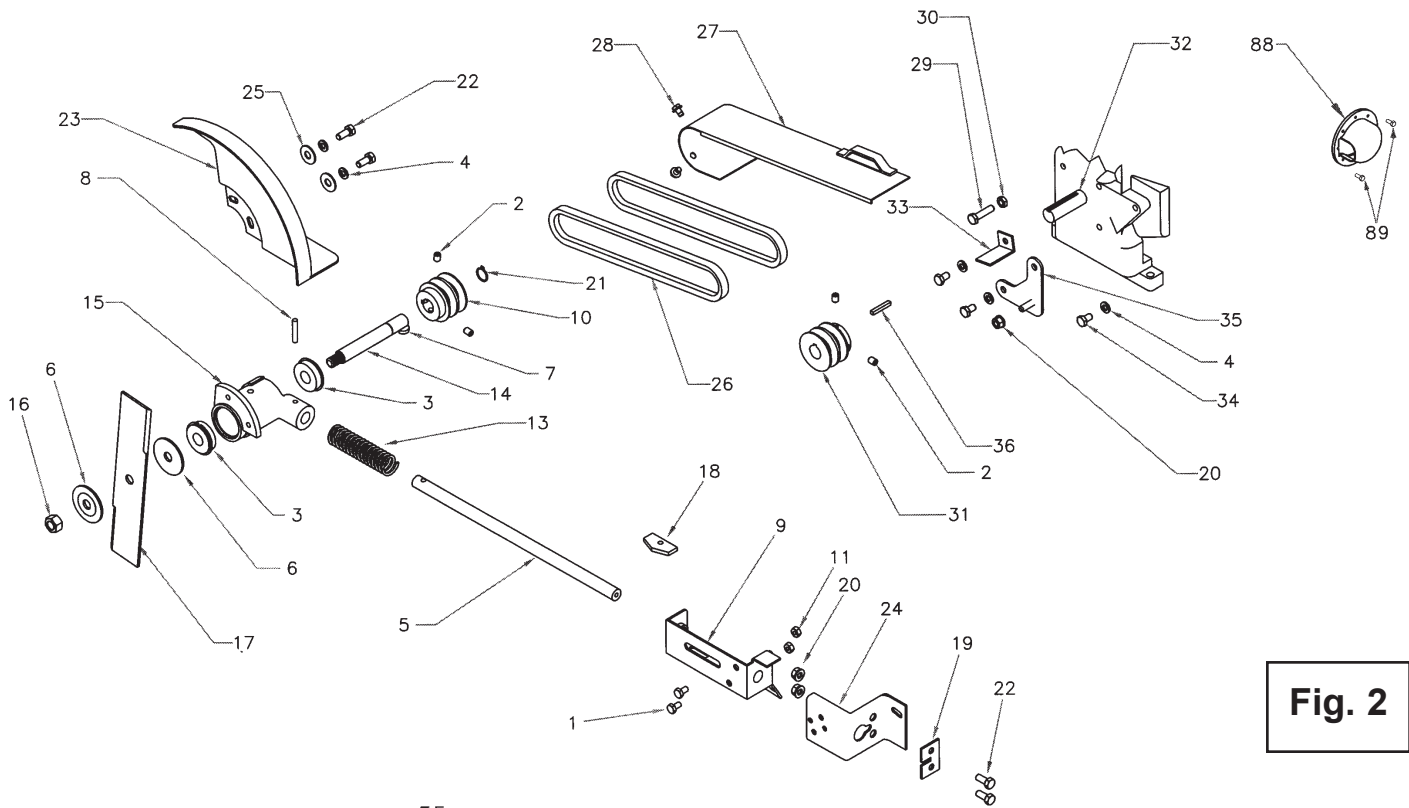

Fig. 2
9. Place blade guard (key # 23) on cutter head assembly (key # 15) as shown in fig. 2, and install 5/16 washers, lock washers, and screws (key #'s 25, 4 & 22). **NOTE:** The blade guard has slotted holes for adjusting. Location of the blade guard should be adjusted so that the bottom of the guard just clears the ground while edging.